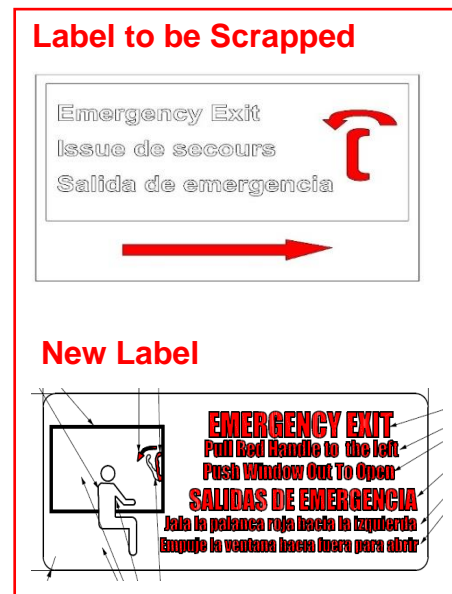

Figure-1
1. There are 3 emergency exit windows on each side of the vehicle and each emergency exit has one handle to open the window. The label must be changed which is located by the window as shown in the below picture (See Figure-1)